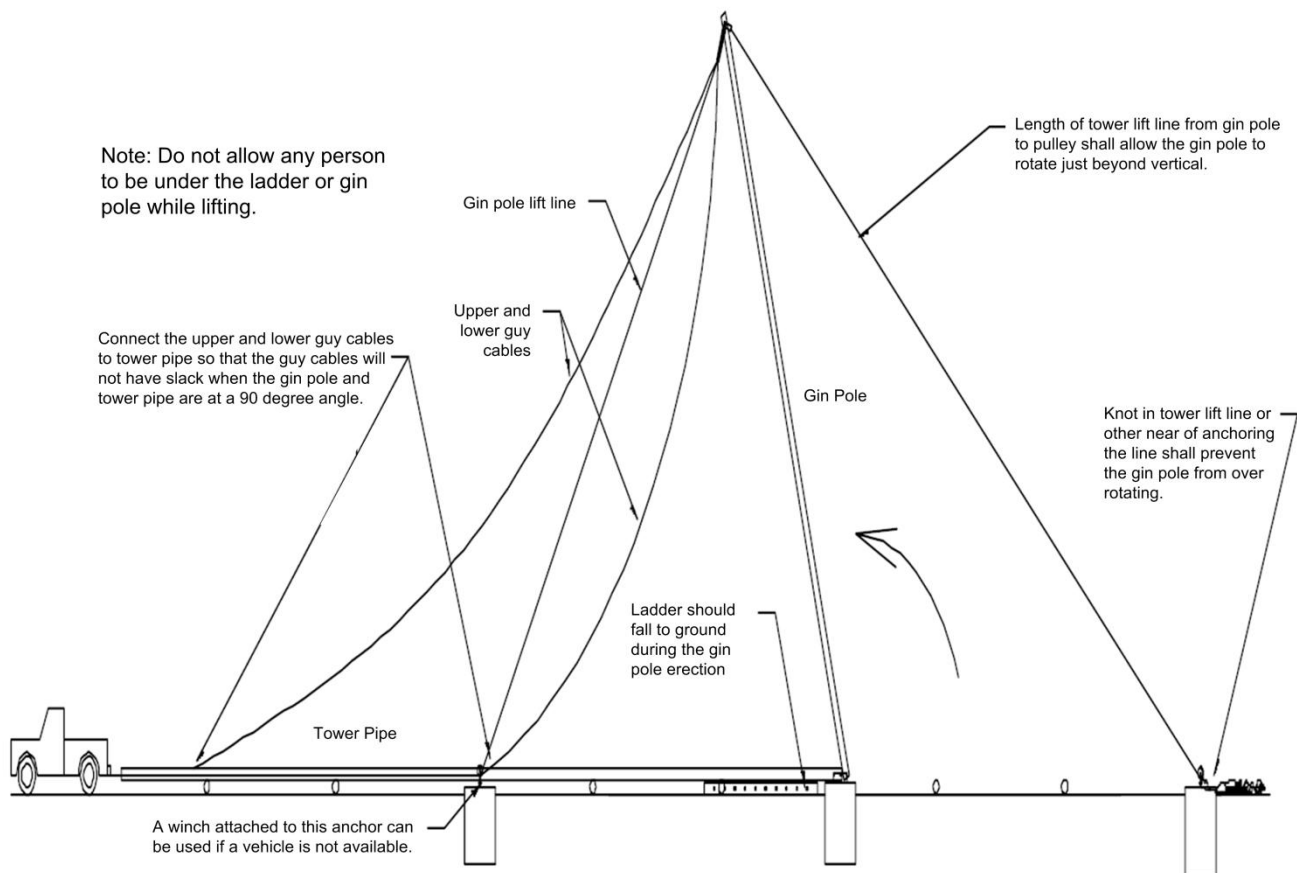
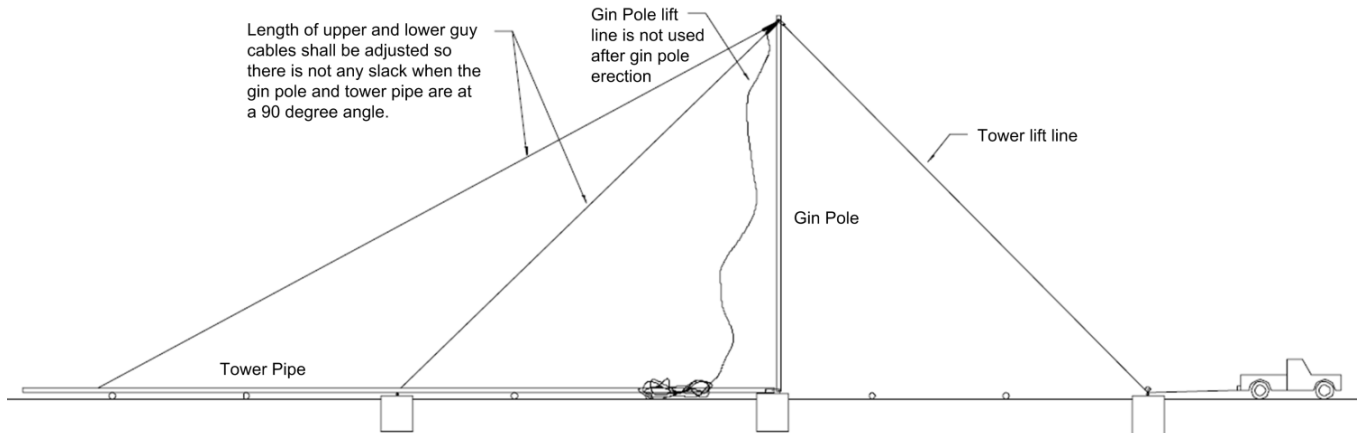

Figure 11
Figure 12
6. Slowly begin to pull on the gin pole lift line while a second person observes this procedure from a safe distance. Immediately stop this procedure if the ladder slips or if anything else does not seem right. Pay attention to the tension in the side guy cables on the gin pole while it is being raised. Stop if the guy cables either become excessively taut or slack. The ladder should fall to the ground after the gin pole is 10 feet off the ground. Continue to lift the gin pole until it just passes the vertical point. Gravity should then naturally move it a few degrees past center until the tower lift line holds it in place (see Figure 11).
- Stop the vehicle and check that the gin pole and tower pipe are at a 90° angle (see Figure 12). The tension in the upper and lower cables should be equal. If the two pipes are not at a 90° angle or if the cables do not have equalized tension, then lower the gin pole just enough to be able to make adjustments in the cable length on the tower pipe (see Figure 11 and 12).